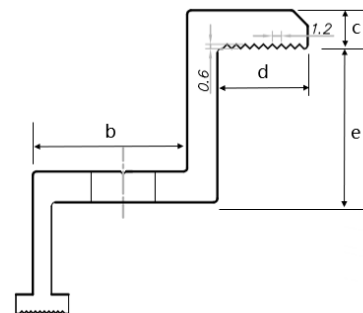

Figure 13 Cross section diagram of fringe clamp
⑦ To prevent modules from coming off the fixed device after installation, it is suggested to choose fringe and mid clamps and make contact with the A side of the frame with groove patterns. Suggest to have 9 patterns with a space between 2 adjacent patterns of 1.2mm and a depth of 0.6mm, as shown in figure 13.